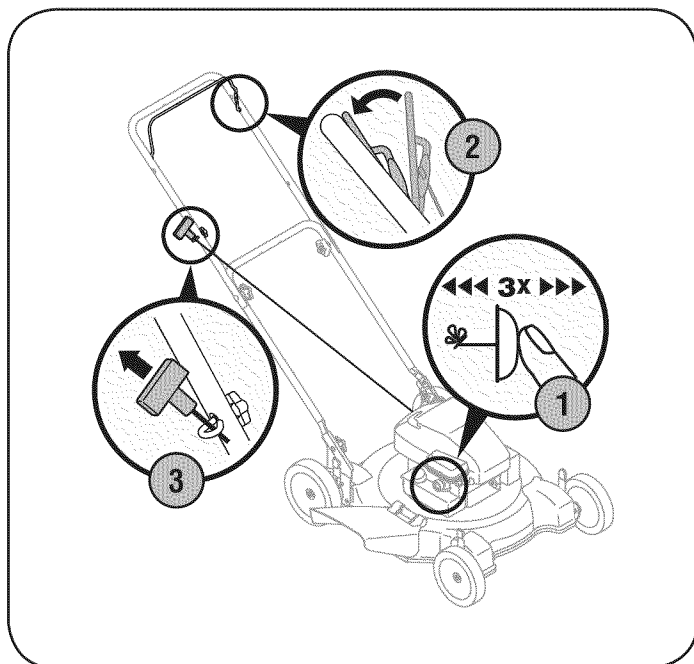

Figure 10
1. When starting the engine for the first time, push primer five times. For all future starts, push the primer three times. Wait about two seconds between each push. See Figure 10. Do not prime to restart a warm engine.
3. Holding these two handles together firmly, grasp recoil starter handle and pull rope slowly until resistance is felt, then pull with a rapid, continuous, full arm stroke. See Figure 10. Keeping a firm grip on the starter handle, let the rope rewind slowly. Repeat until engine cranks. Let the rope rewind each time slowly.